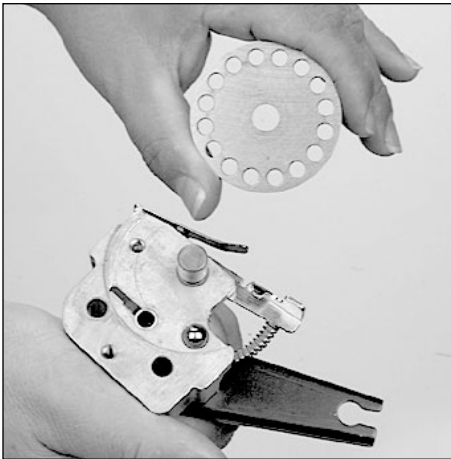

FIG 166
4. Remove the rotary primer disc **FIG 166**. Make sure the detent ball remains in place.